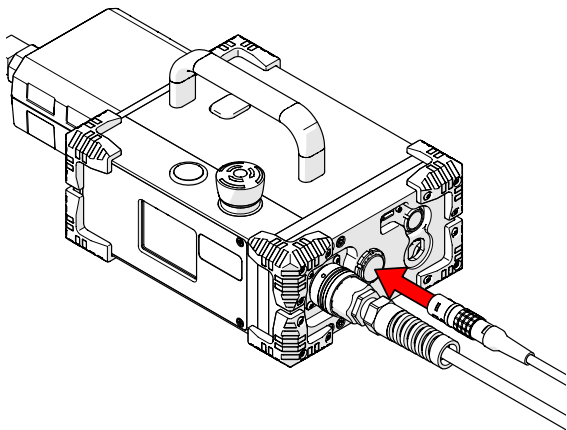

Fig. 33 - Connect camera cable Ethernet connection to the tablet
6. Connect the Ethernet cable to the power controller (Fig. 33).